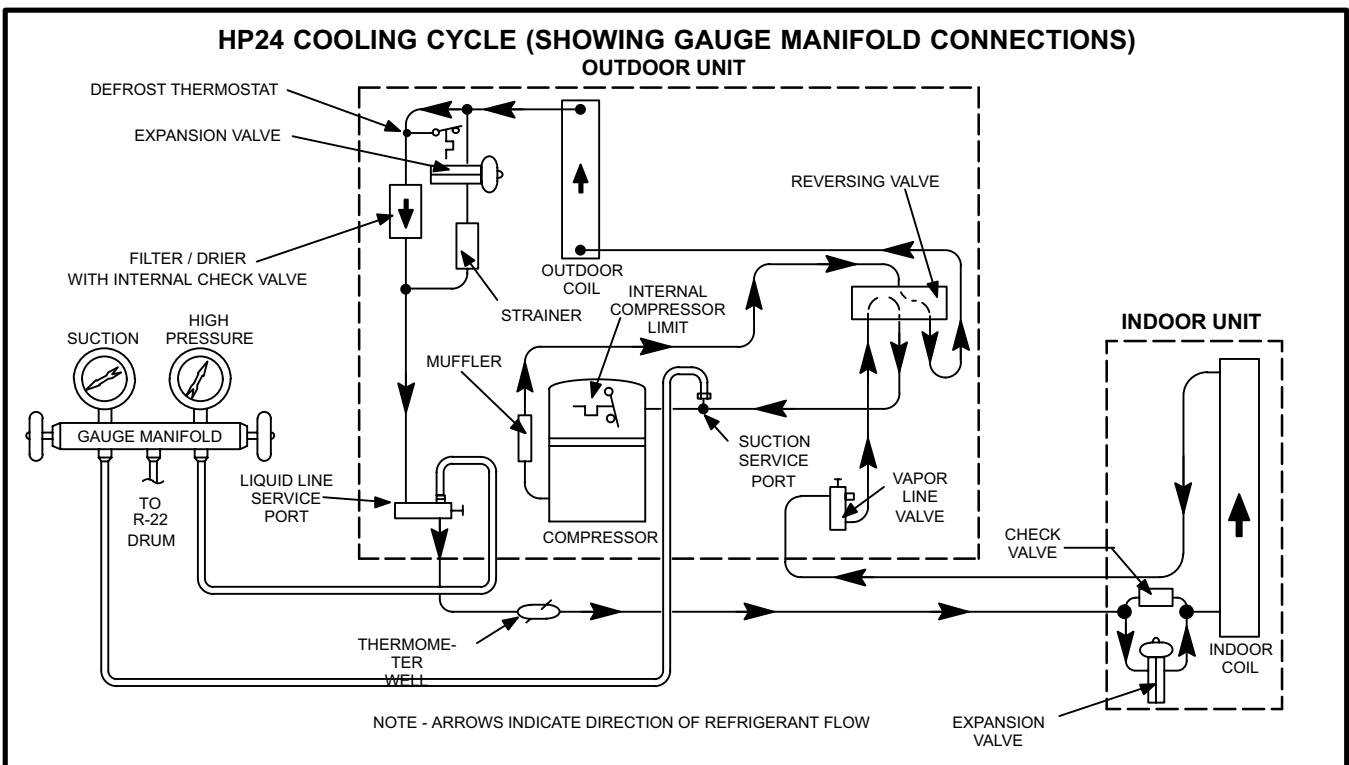

FIGURE 7
- 1- Attach gauge manifold as shown in figure 7. Connect vacuum pump (with vacuum gauge) to center port of gauge manifold. With both manifold service valves open, start pump and evacuate indoor coil and refrigerant lines.
The filter drier is equipped with an internal check valve for correct refrigerant flow. See figure 7. If replacement is necessary, order another of like design and capacity. A strainer in the liquid line gives additional protection.